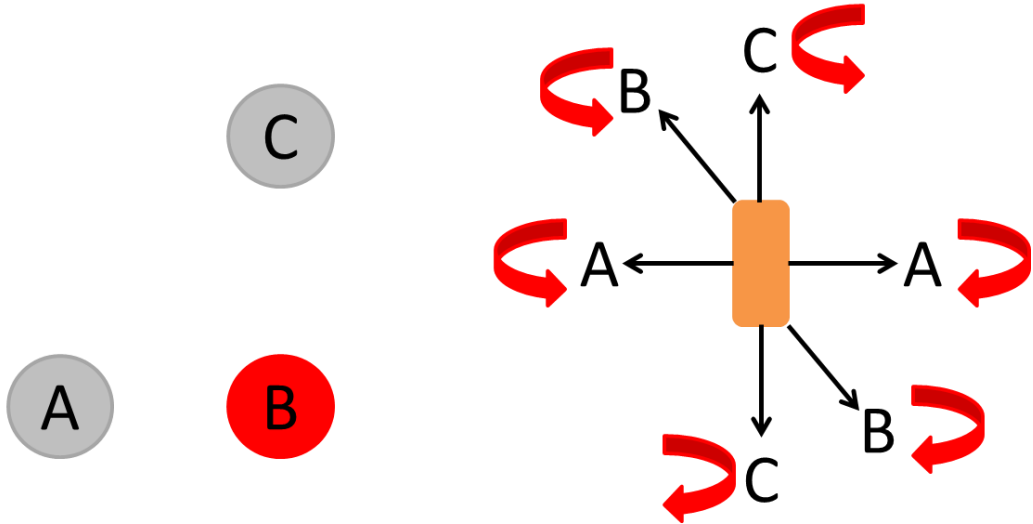
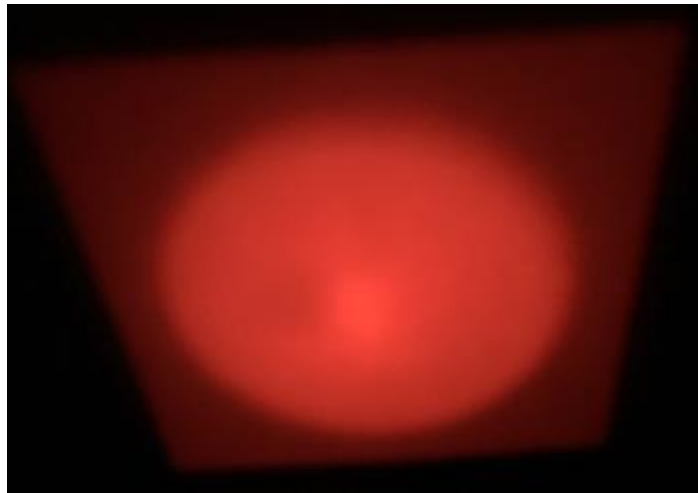

Figure 9: Rear reflector knob adjustment (left) and secondary image displacement (right).
Figure 10: A properly aligned IR light source.
- 4. To move the secondary image, use the three knobs located on the rear reflector assembly to overlap the secondary image over the primary image. Use Figure 9 for reference as to how to adjust each knob in order to move the secondary image into its required position. See Figure 10 for the final output of a properly aligned IR light source.